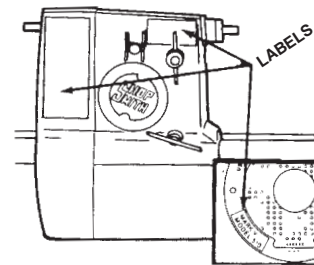

Figure 4
- 6. Attach the three Labels to the Headstock,** as shown in Figure 4.